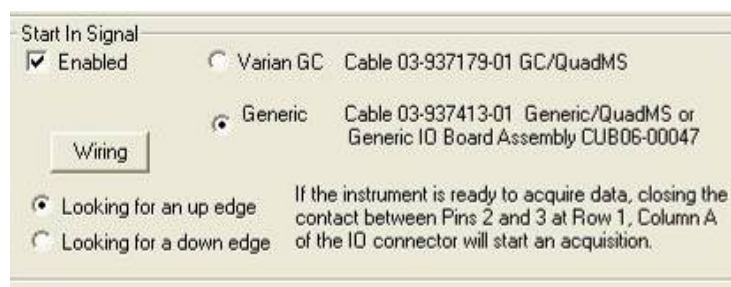

Figure 19
- a. For the 320-MS, enable a Start-In Signal, as shown in Figure 19, in the Configuration/Sync Signals (Quad-MS Toolbar) menu.